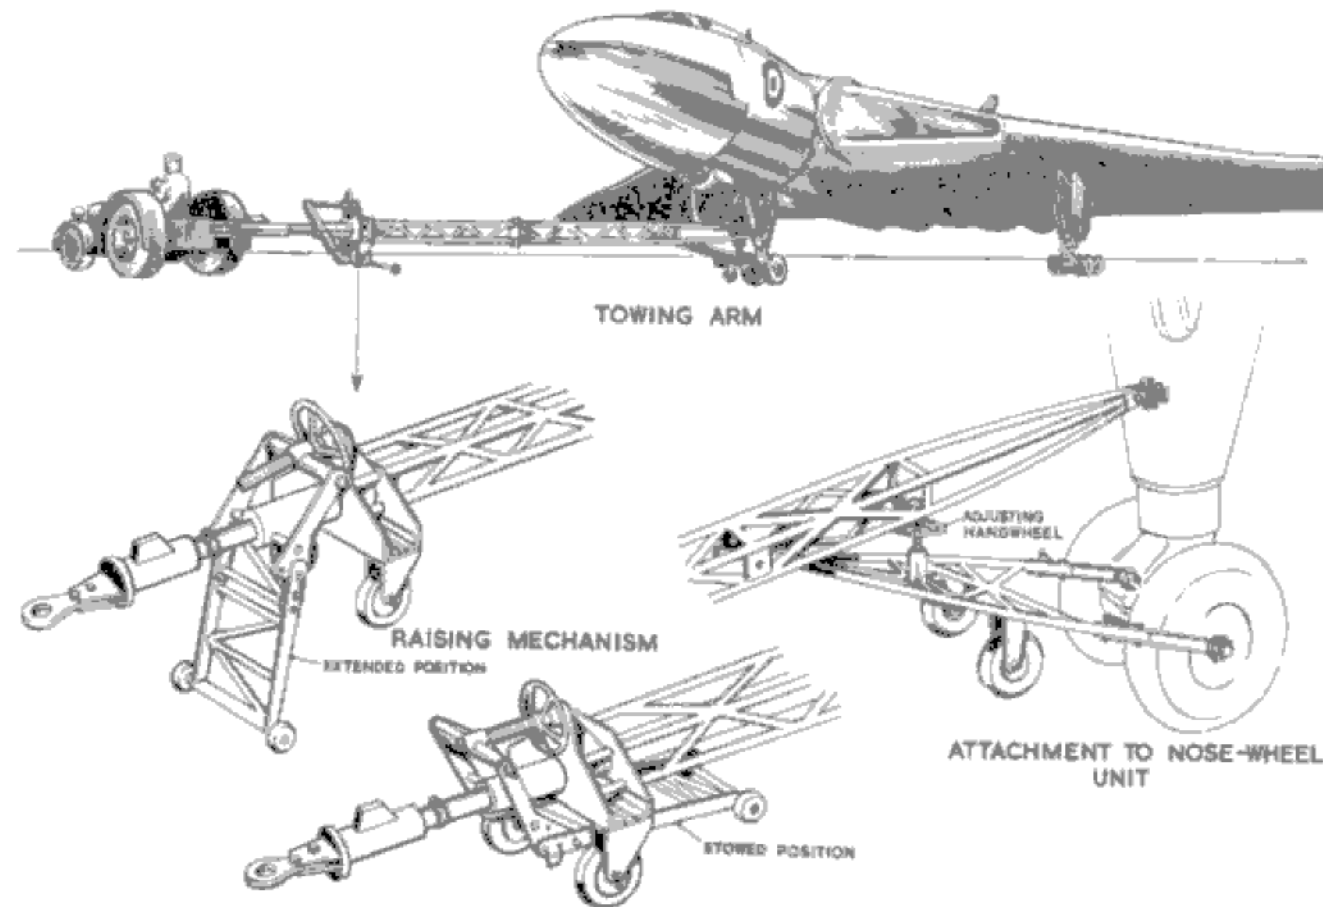

Fig.2 Forward towing
2. Normally the aircraft is towed forward (fig.2) from a lug on the nose-wheel unit body, with a steering adapter attached to the nose-wheel axle using a towing bar Ref.No.26DC/95000. The towing arm can also be used to push the aircraft rearward provided the following conditions are strictly adhered to:-